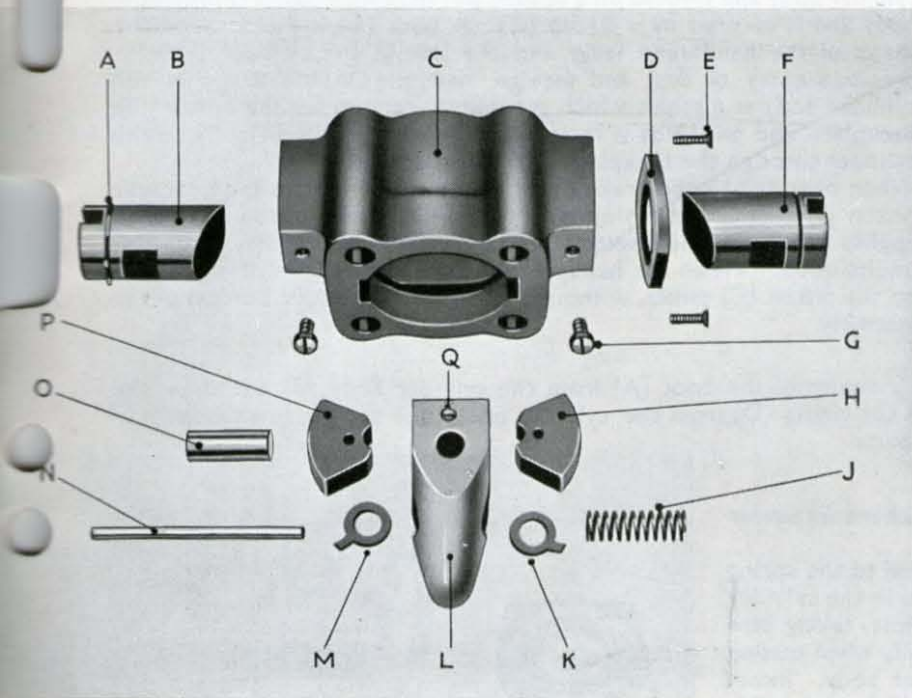
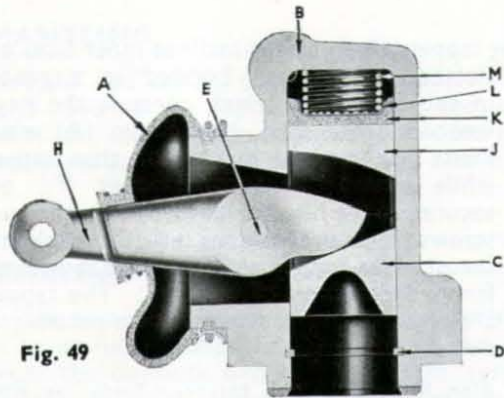

Fig. 47
Fig. 49
The rear brake assembly (see Fig. 40) consists of a backplate (1) on the outer face of which are rigidly attached an adjuster (5), towards its forward edge, and a bisector (8), at its rearward edge: the latter being operated by a transverse wheel cylinder (see Fig. 49), behind the backplate and secured by four set screws (7) which pass through the bisector and backplate and are screwed into the cylinder body.
The bisector (see Figs. 47 and 48) consists of a body (C) housing two opposing tappets (B, F) having inclined inner faces and slotted outer faces. Located in a groove in the tappet (B) which controls the single webbed brake shoe, is a circlip (A) which limits the inward stroke of that tappet, while around the second tappet (F), and secured to the bisector body by counter sunk screws (E), is an abutment ring (D) to take the thrust of the double webbed brake shoe in the forward direction of rotation. The tappets are retained and prevented from rotating by two set screws (G).
The transverse wheel cylinder (see Figs. 49 and 50) is of the pusher type, incorporating a handbrake lever which is located between two pistons (J, C) within a body (B): the inner (or hydraulic) piston (J) is backed by a rubber cup (K), a spring retainer (L) and a return spring (M); and the outer (or handbrake) piston (C) is recessed to receive the domed head of the bisector fork (Fig. 47 Ref. L). The stroke of this latter piston is limited by a circlip (D) fitted in a groove in the mouth of the cylinder bore.